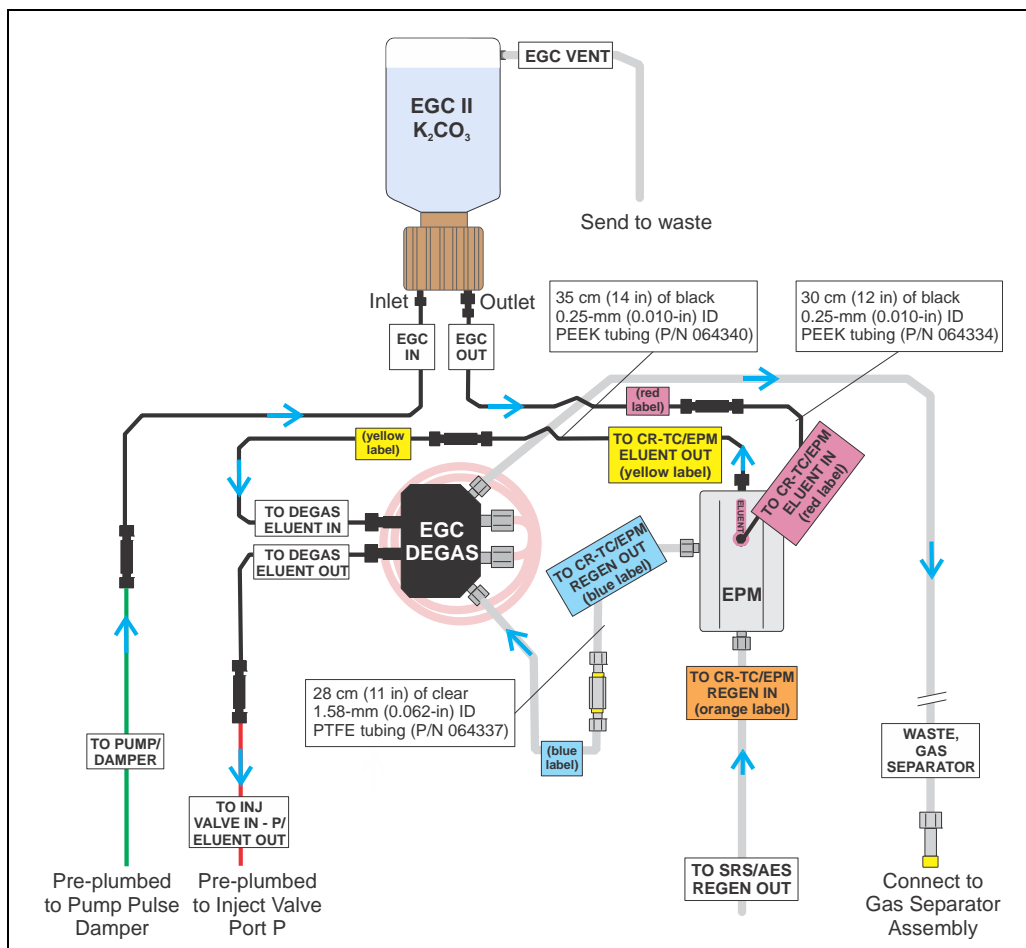

Figure 68. Dionex EluGen Cartridge and Dionex EPM Plumbing with Tubing Extensions
- Connect the **TO CR-TC/EPM ELUENT OUT** line (yellow label) to the **ELUENT OUT** port on the Dionex EPM (see Figure 68).